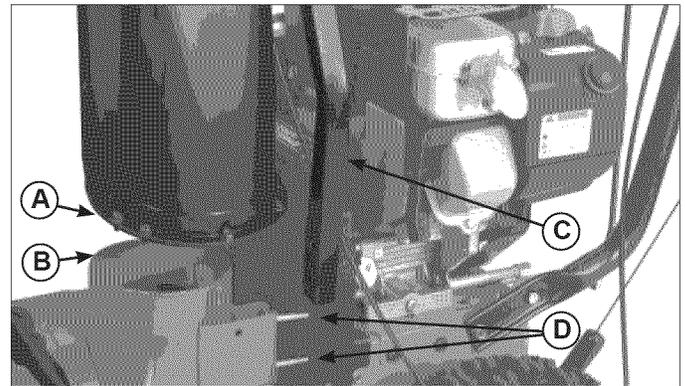
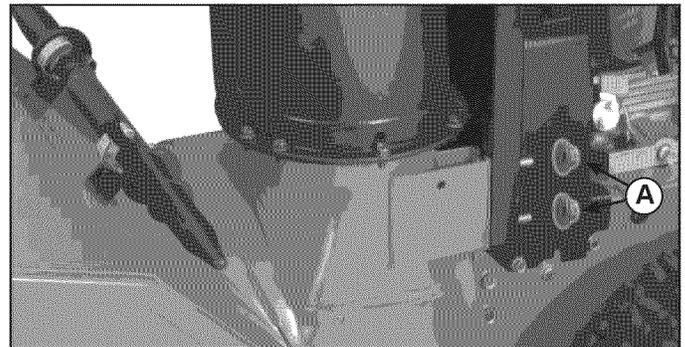

Figure 8. Chute and Rotator Assembly
Figure 9. Carriage Bolts
2. Slide the chute base (A, Figure 8) onto the auger housing (B).
3. Slide support tube (C) on the carriage bolts (D).
4. Thread two 3/8" flange nuts (A, Figure 9) onto carriage bolts and tighten with a 9/16" wrench.
**Traction Lock Pins: (1100 Series Only)** The right traction wheel can be completely released using the locking pin (see Figure 9). This allows the unit to be easily moved with the engine off.